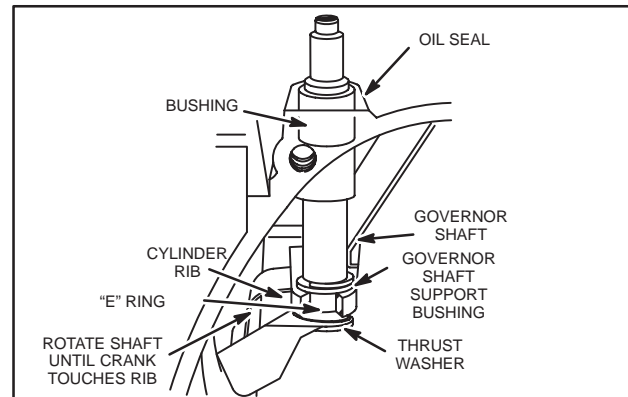
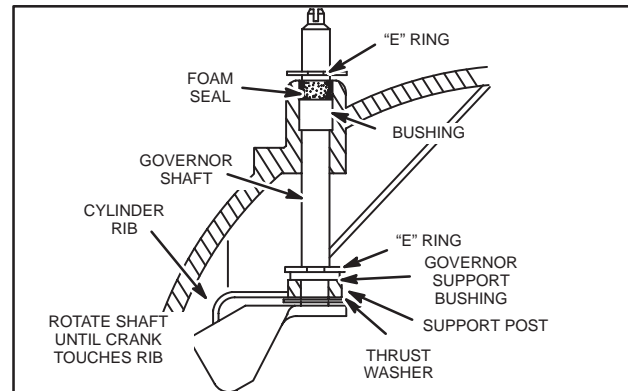
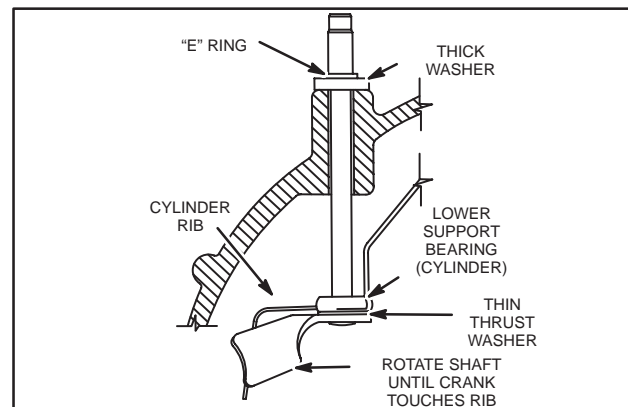

Fig. 14 – Governor Shaft Assembly (Twin II)
Fig. 15 – Governor Shaft Assembly Pre-Twin II
Fig. 16 – Governor Shaft Assembly (Early Style)
Opposed twin cylinder engines have three (3) styles of bushings on the governor shaft, Fig. 14, Fig. 15 and Fig. 16. They are not interchangeable.
1. Remove "E" ring from governor shaft, Fig. 14.
1. Remove from top of governor shaft, Fig. 15.
1. While pushing up on governor shaft, remove "E" ring and thick washer, Fig. 16.